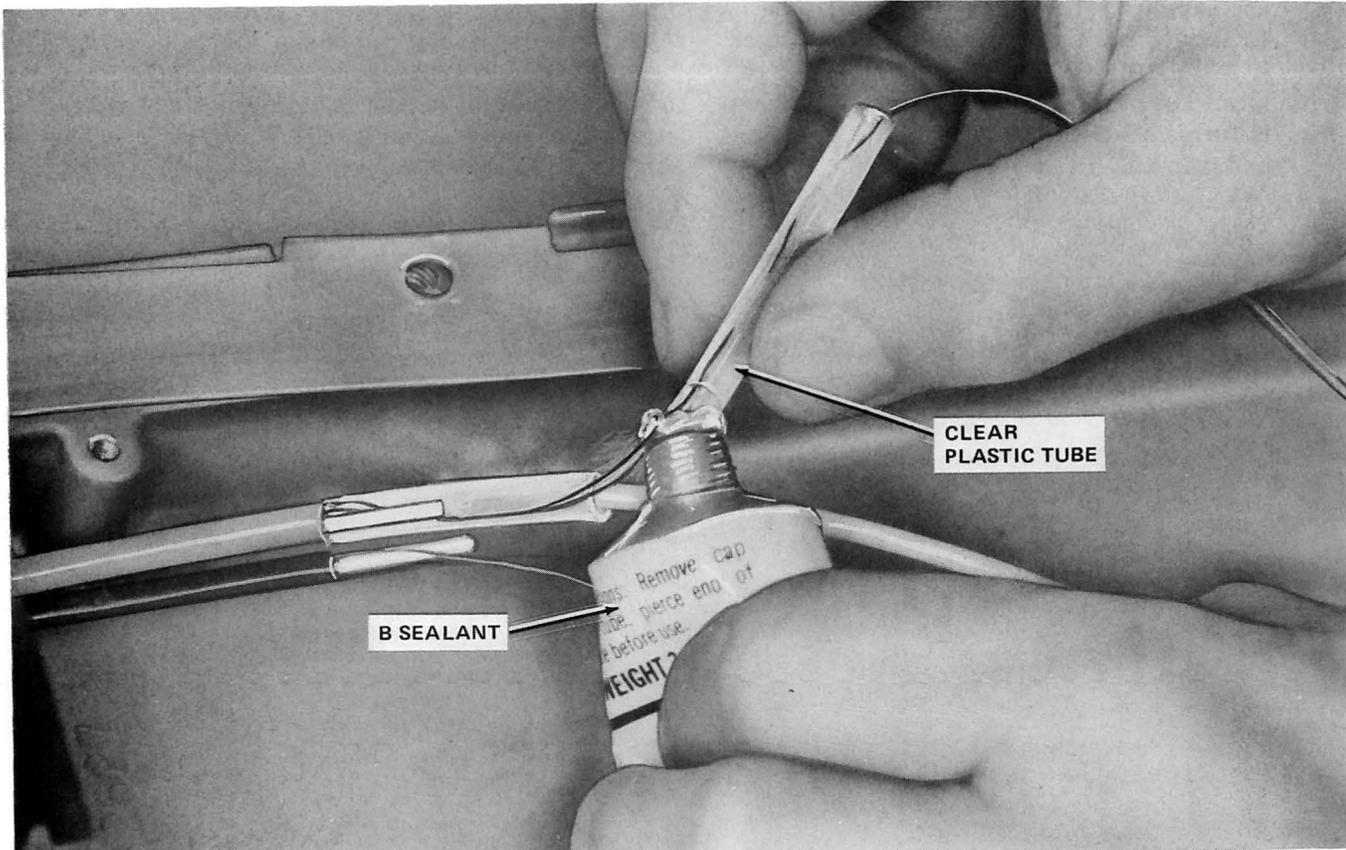

Fig. 51—Placing B Sealant Into Clear Plastic Tube
7.12 Slide the 2-inch clear tube off the protection tube and toward the unit tube. Fill the clear tube approximately one-half full of B sealant, as shown in Fig. 51. (A syringe will be supplied with this kit for applying the B sealant into the clear plastic tube).